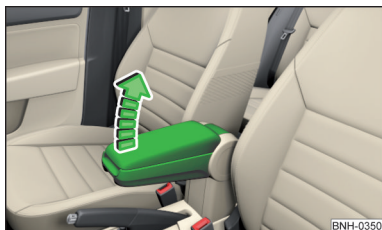

Fig. 56
- Lift the armrest fully upwards in the direction of the arrow » Fig. 56 and then move it back down completely.